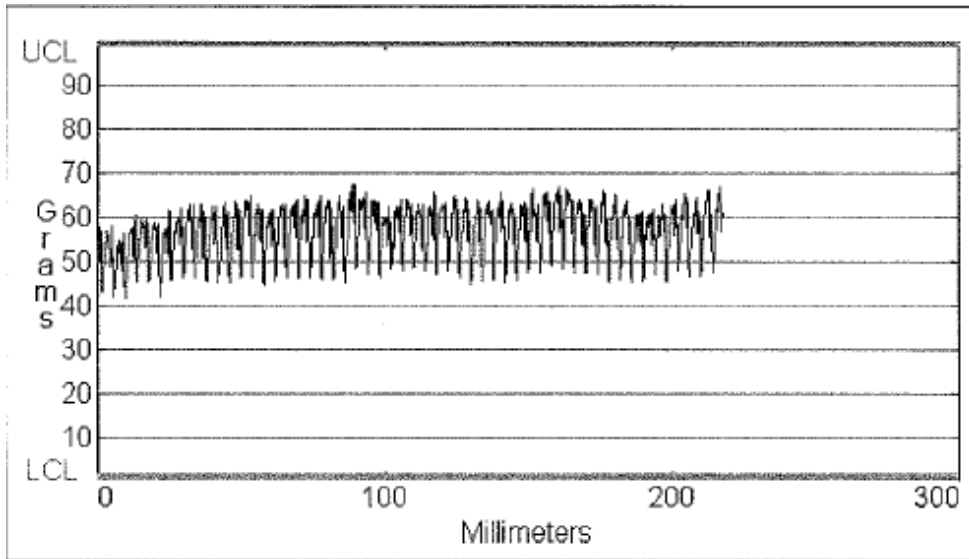

Figure 3. The “peel” force data for the traditional cover tape are above.
- 4) “Removal” / “peel” force plots are below for traditional and for new universal cover tapes. See Figures 3 and 4. The “peel” consistency is much better with the universal cover tape.